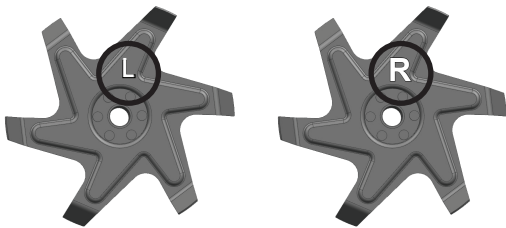

Figure 4
- Make sure to assemble the tines in order (L), (R), (L), (R). (L) or (R) is etched on the tines for reference. See Figure 4.